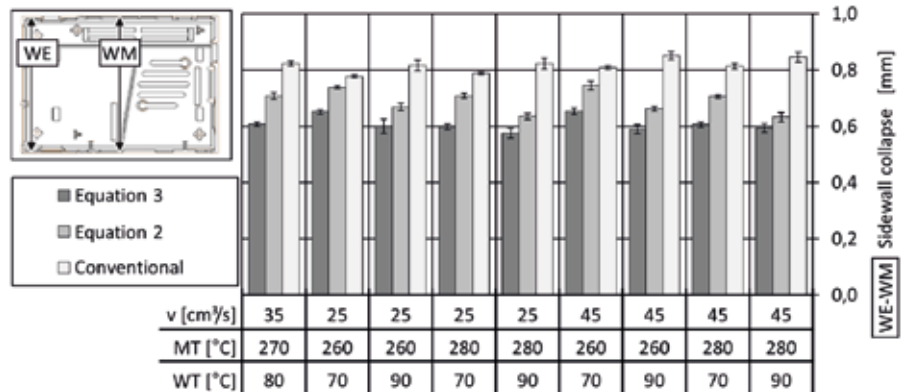

Figure 1.3: Comparison of warpage compensation results from different cooling channel layouts generated with different objective functions [Hoh21]
One validation is conducted with the part displayed in Figure 1.1. An optimal heat balance is calculated each with the objective function 1.2 and 1.3. The two optimised heat flux distributions are used to derive two conformal cooling channel layouts for this geometry of a single-board computer casing. A pair of mould inserts is produced for each layout, and the parts are injection moulded using these and a pair of inserts with conventional cooling channels designed by a mould maker. The parts are produced with different mould temperatures (WT), mass temperatures (MT) and injection rates (v) to compare the warpage compensation under different circumstances and relate it to the influence on the part warpage of process parameters. The parameter combinations are displayed in Figure 1.3. The used material is the acrylnitrilbutadien-styrol copolymer Bayblend T65XF by Covestro AG, Leverkusen.
Different dimensions of the parts are measured with the tactile coordinate measuring machine O-Inspect 442 by Carl Zeiss AG, Jena. The warpage is assessed by subtracting the shrinkage portion from one measurement by relating two measurements to each other. Figure 1.3 shows the wall collapse